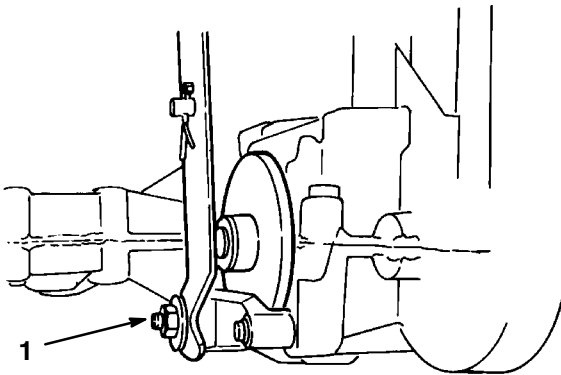

Figure 18
Adjust the brake pucks if the parking brake does not hold or braking power is not sufficient when the brake pedal is depressed. The brake is located on the left side of the transaxle (Fig. 18).
2. Tighten the locknut approximately 1/4 turn clockwise (Fig. 18).